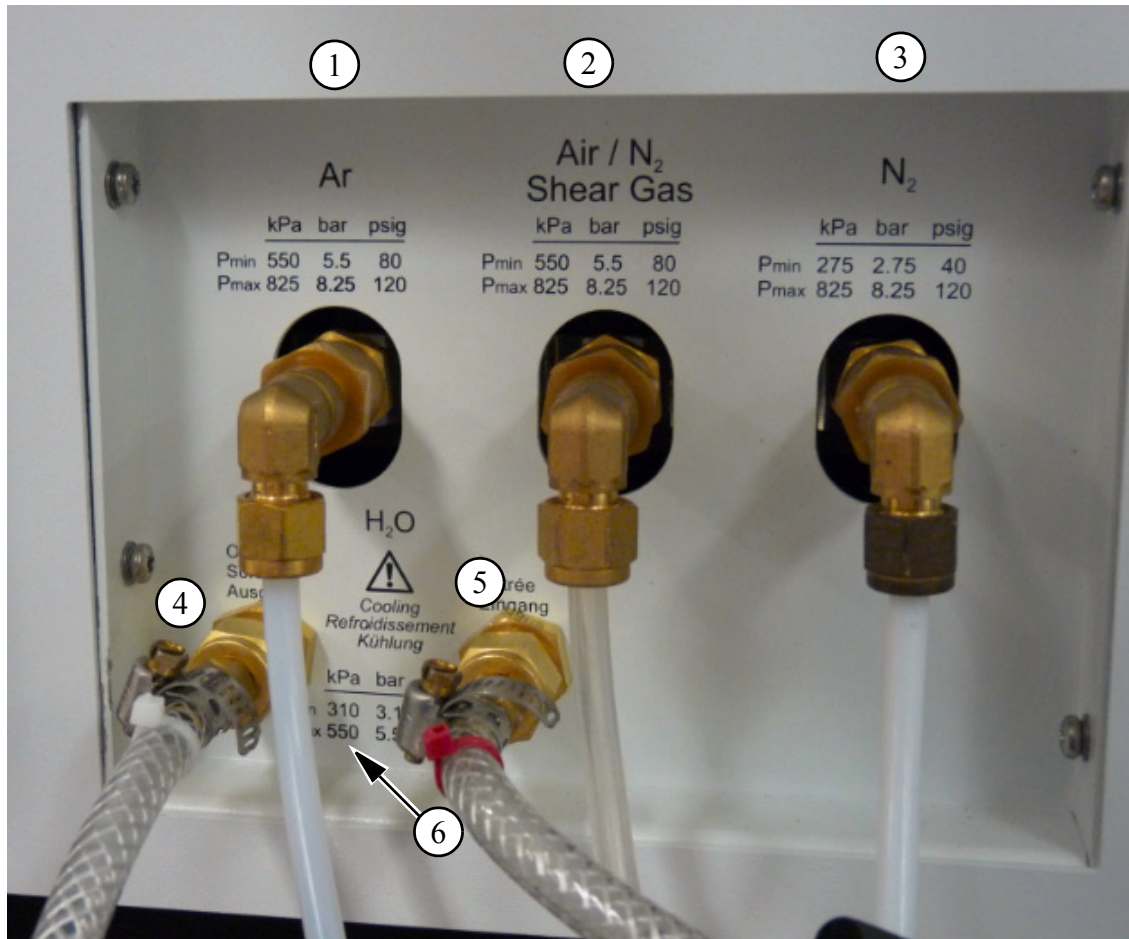

Figure 4-1. Pneumatic, water and shear gas connections.
1. Connect the instrument to the nitrogen supply using the nitrogen hose (Part No. N0690275), uses 1/4-in. Swagelok fitting) using a 1/4-in. space collar (Part No. 09920125) on both ends of the tubing. Refer to Figure 4-1.